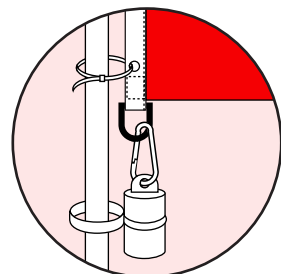

Fig 10.
13. At the bottom of the flag attach the D-ring to the metal clip on the weight. (Fig 10)